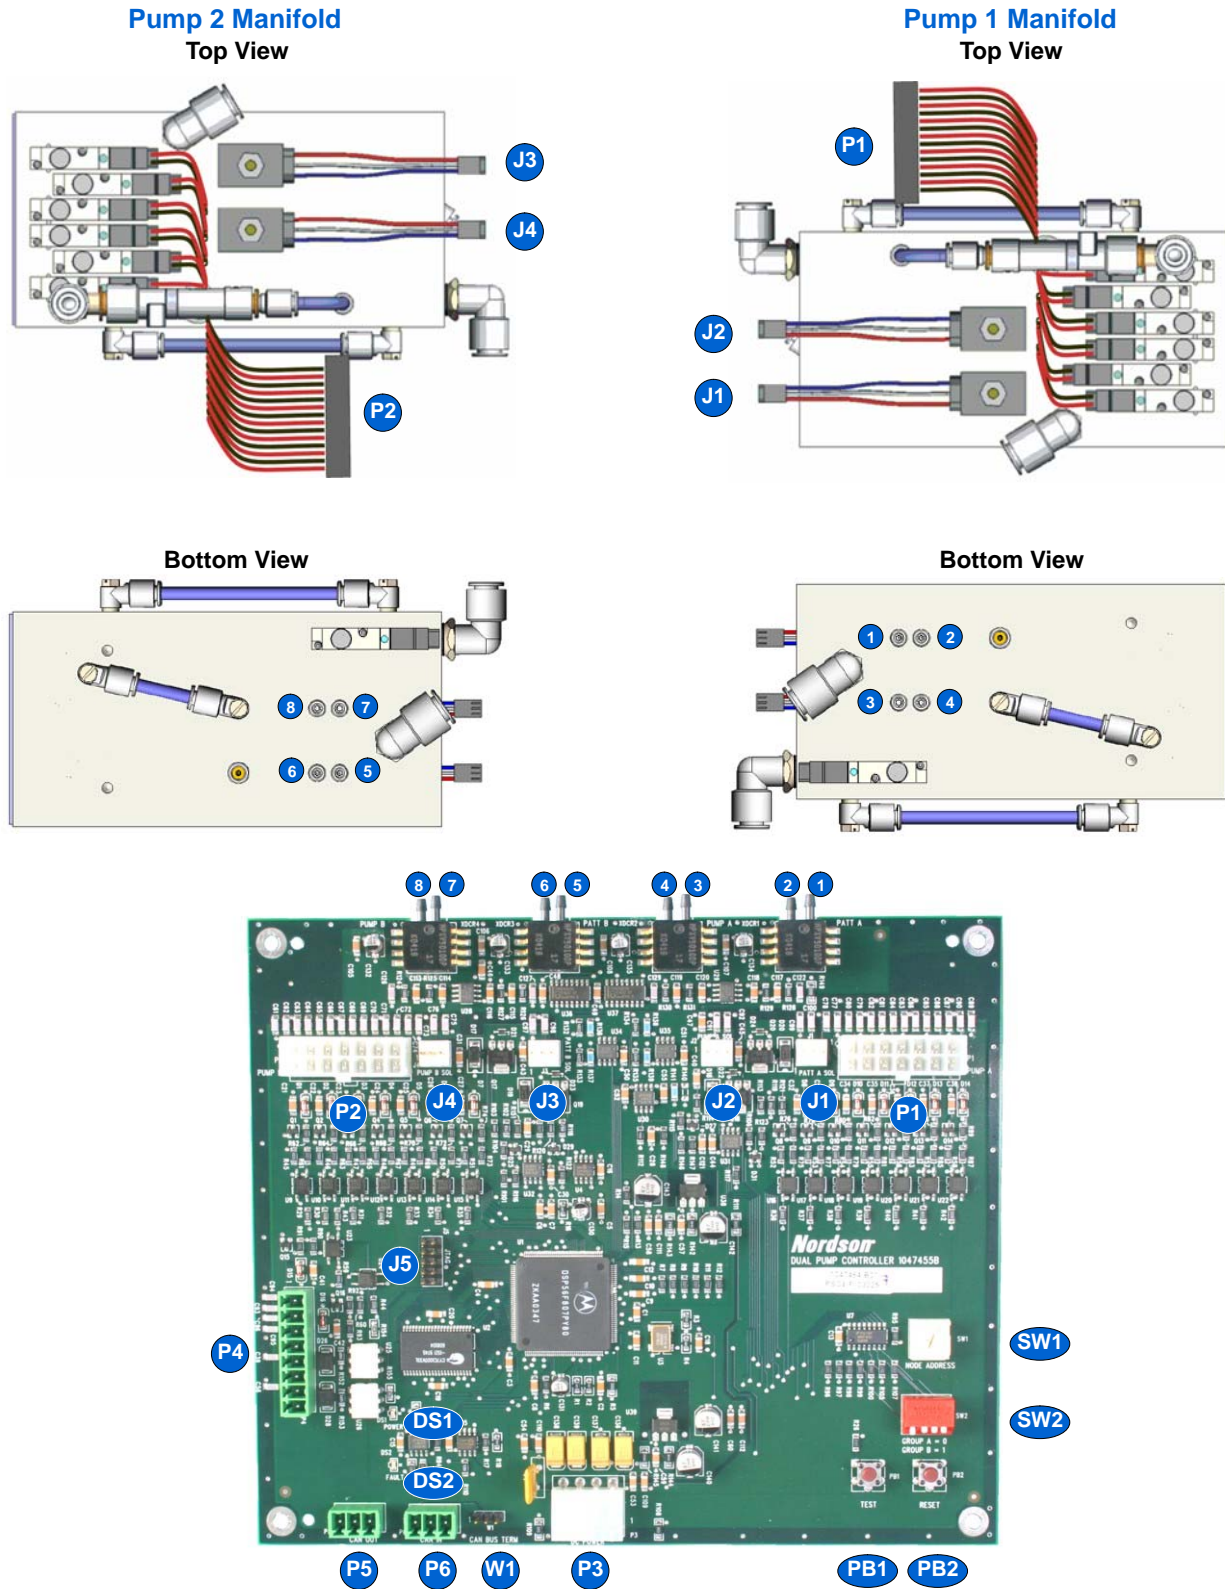

Figure 3 Circuit Board-to-Pump Control Manifold Connections
6. See Figure 3. Connect the new circuit board's eight transducer air tubes to the appropriate fittings on the pump control manifold(s).